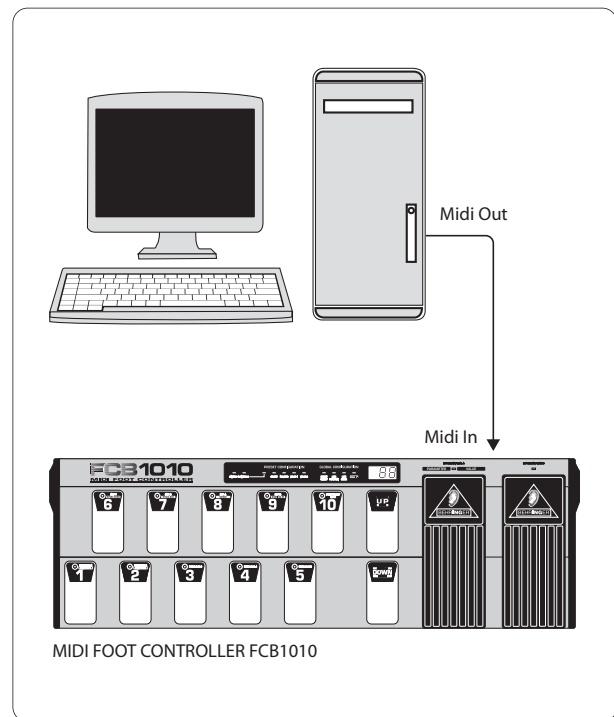

Fig. 2.6: Receiving a SysEx dump
- Connect the MIDI OUT connector of your sequencer or computer to the MIDI IN connector of the FCB1010 (see fig. 2.6).